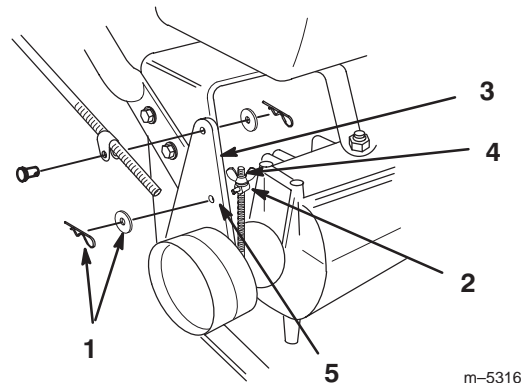

Figure 37
3. To adjust the brake remove the cotter pin and washer from the brake lever (Fig. 37).
4. Rotate the trunnion so it smoothly slides into brake lever hole **F** (Fig. 37). Tighten wing nut.
5. Secure trunnion to brake lever with washer and cotter pin (Fig. 37).